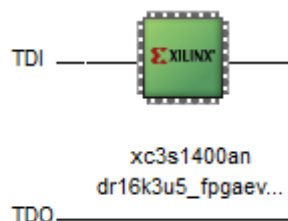

Figure 19: SPARTAN JTAG Chain
- Right-click anywhere in the canvas and choose the **Initialize Chain** option. This option will show the device that is connected via JTAG (figure 19).